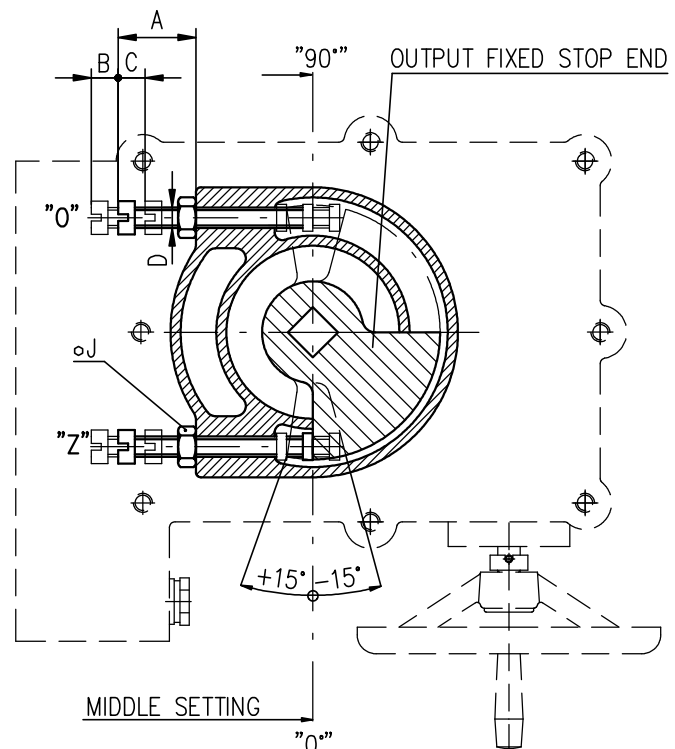

Fig.8
4.6 Resetting of operation angle and setting of stop end screws (Fig. 8)
The valve operation angle position is defined with the stop end screws which allow to change the position from the position "Z" (closed - 0°) and from the position "O" (open - 60°, 90°, 120°, 160°) by a value of $\pm 15^\circ$. For better understanding see Fig. 8 where the output shaft is in the position "Z" for the operation angle of 90°. The stop end screws serve as mechanical limits of the operation angle position at manual control or as end travel points for torque switching-off, else the mechanical gearing could be damaged.
4.6.2 Setting of stop end screws at torque switching-off (Fig.8)